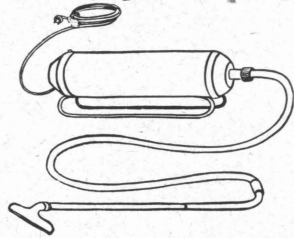
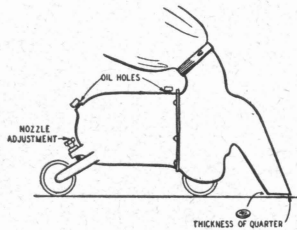
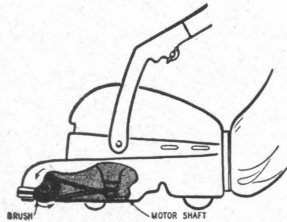

Fig. 30
Fig. 31
Fig. 32
There are two general types of cleaners, the cylinder type, Fig. 30, and upright type, Fig. 31. The cylinder type is always a straight suction cleaner. The upright may have a revolving brush or roll (Fig. 32) to sweep or vibrate the rug.
**Remedy:** Find the nozzle adjustment on your cleaner, Fig. 31, (some cleaners do not have an adjustment). Adjust so that a quarter slides easily between cleaner nozzle and rug. On cleaners with a rotating brush or roll, the clearance should be the thickness of a half dollar. Fig. 32.
**Remedy:** Examine the belt. Fig. 32. Make sure it is around both the brush and motor shaft and is not tangled with hair and strings. If after cleaning the brush is still will not turn with the motor, the belt is probably stretched and should be replaced with a new belt. To replace belt: Fig. 32.
**Caution:** Be sure brush rotates as shown in Fig. 32. If brush rotates in the opposite direction, remove belt from motor shaft, twist in the opposite direction, and replace.
1. **Lubrication:** Most cylinder type cleaners Fig. 30 and many upright cleaners Fig. 32 have bearings which are sealed and packed with grease at the factory. These types require no lubrication but should be inspected at least yearly by a competent serviceman. If any unusual noise develops in these cleaners they should immediately be taken to a serviceman, dealer, or manufacturer for inspection. Some upright cleaners of the type shown in Fig. 31 have 2 oil holes located as shown. Oil these cleaners with 3 or 4 drops of electric motor oil monthly. An occasional drop of oil on the wheel bearings of the cleaner is desirable.